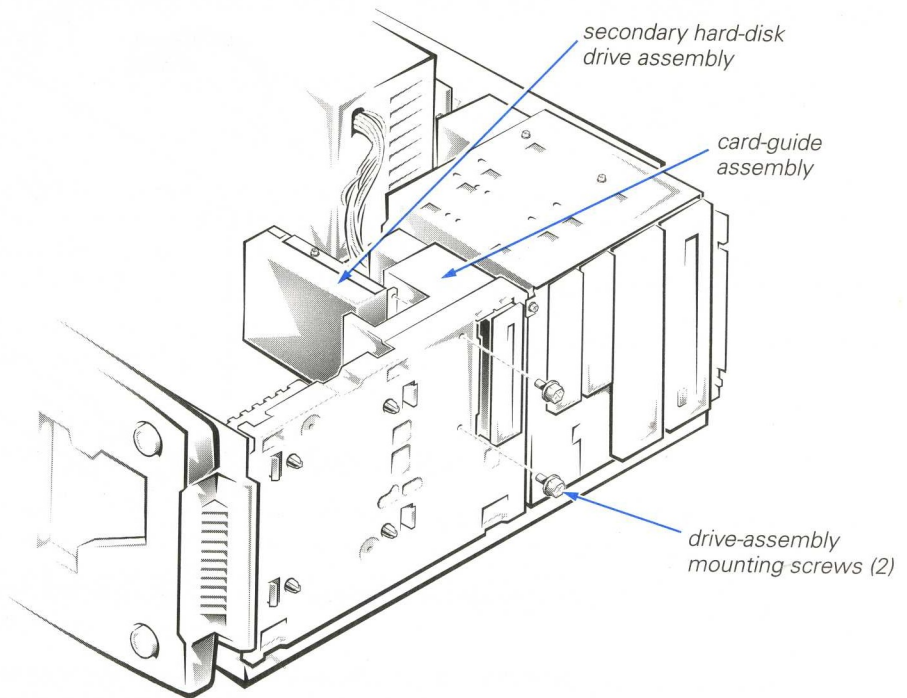

**Figure 3-12. Secondary Hard-Disk Drive Assembly**
4. Remove the two screws securing the secondary hard-disk drive bracket to the chassis (see Figure 3-12). Slide the bracket toward the back of the chassis and lift it out.